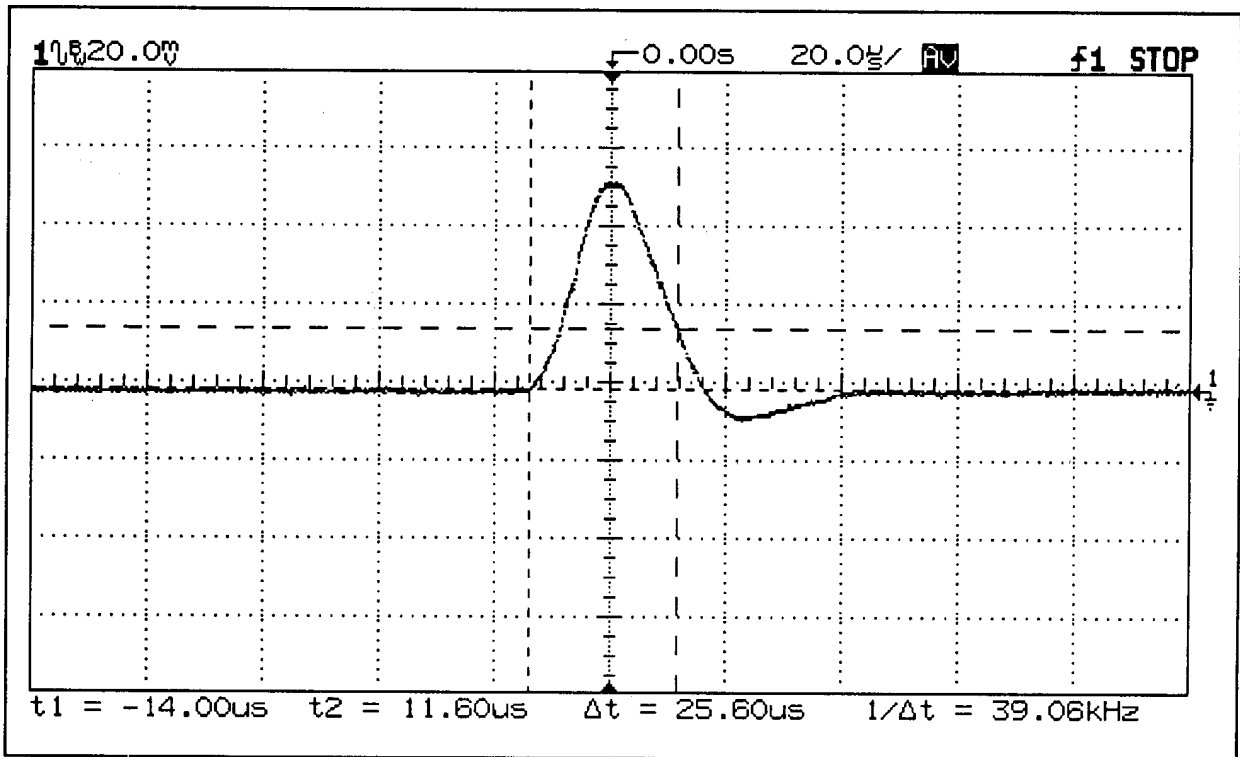

Figure A-7. Load Transient Response Time Waveform
- Adjust the oscilloscope to display transients as shown in Figure A-7.